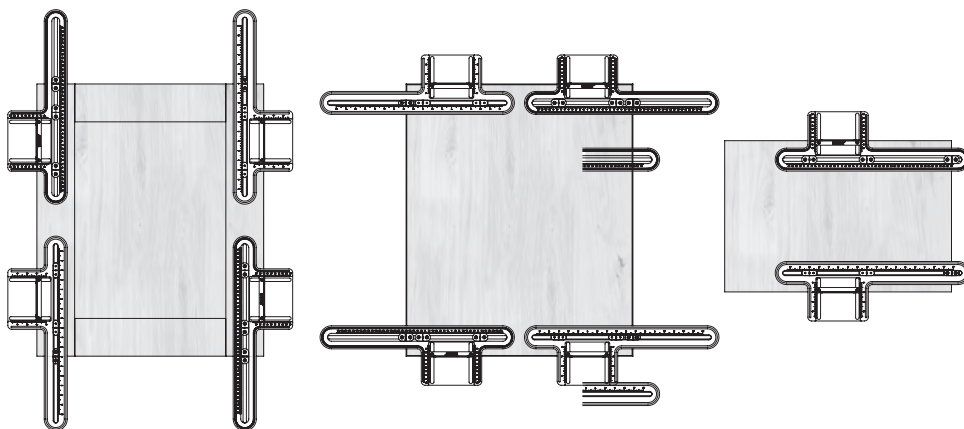

Fig. 16
- Ensure the Short and Long Guides are in full contact with the door/drawer edges (**Fig. 16**).